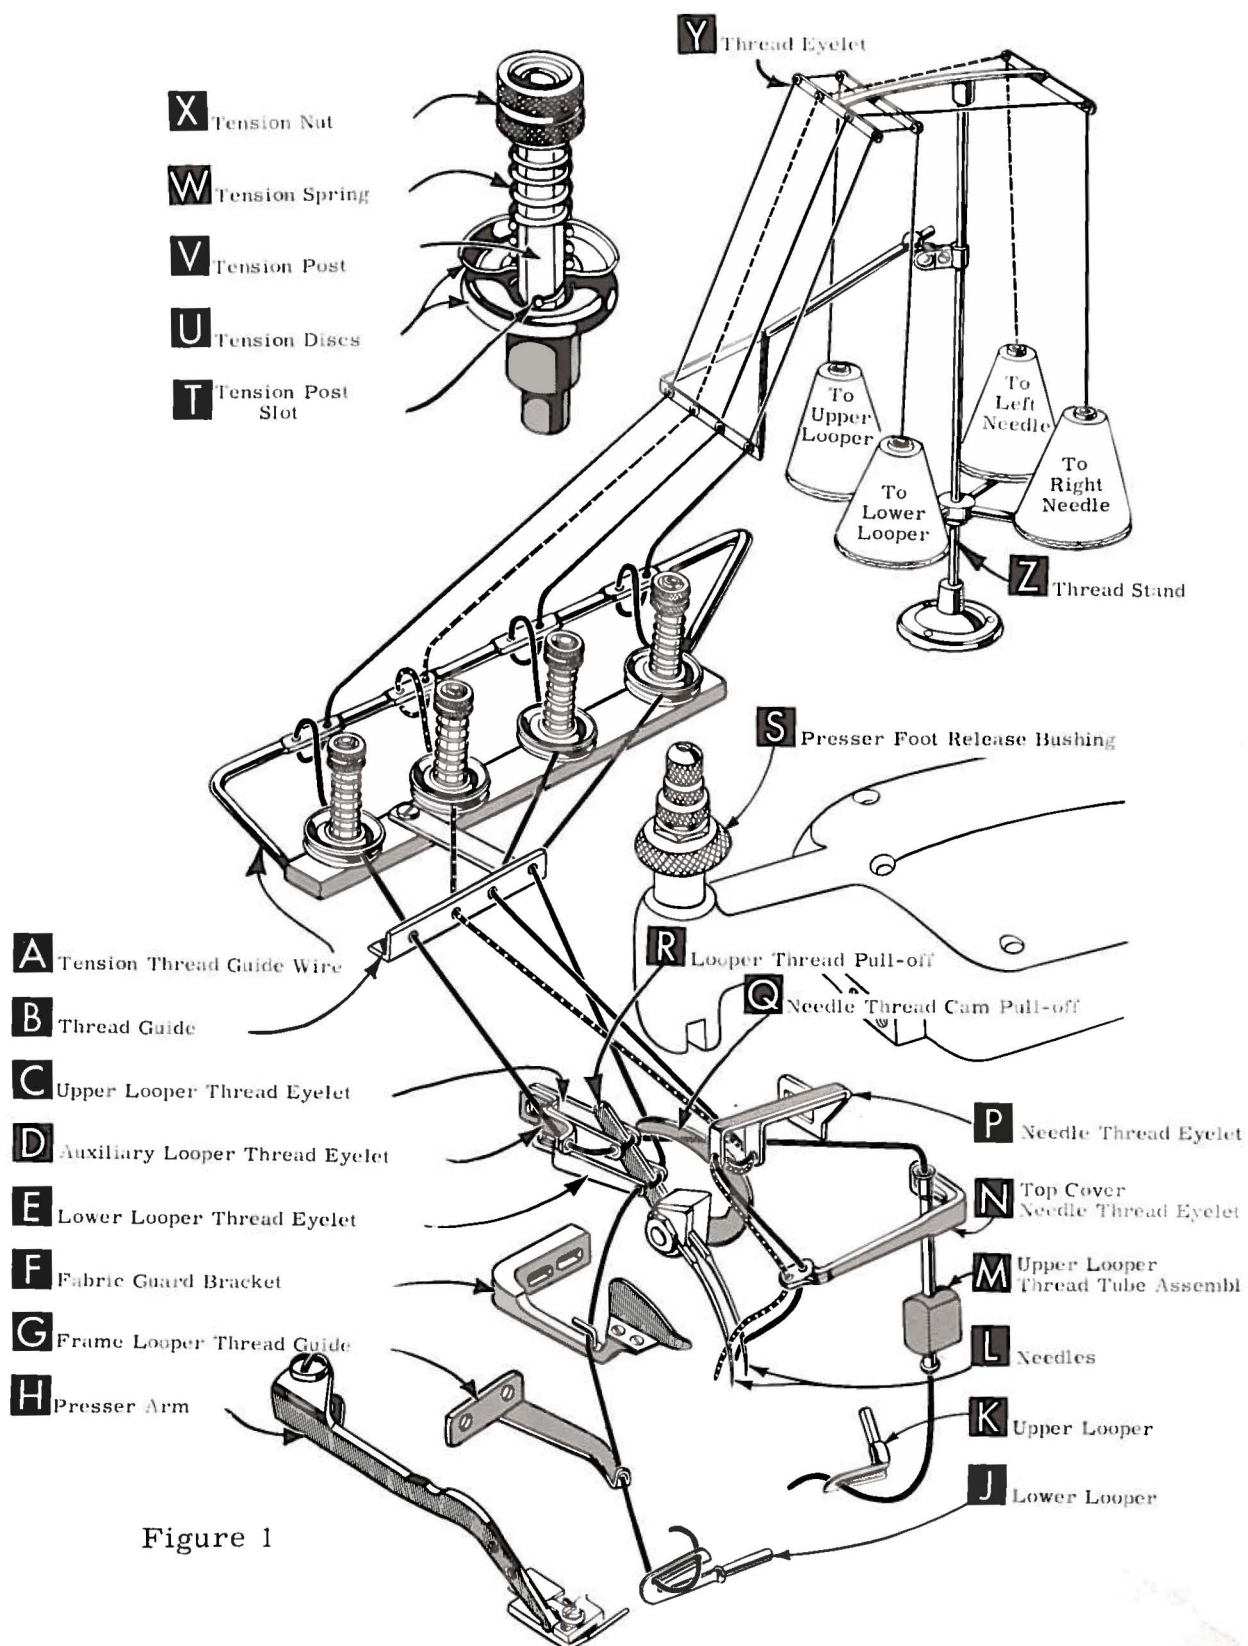

Figure 1
Release pressure on presser foot by turning presser foot release bushing (S, Fig. 1) and swing presser arm (H) out of position. Turn handwheel in operating direction until needles are at their lowest point of travel. Using hexagonal socket wrench No. 21388 AU, furnished with machine, loosen needle clamp nut about 1/4 turn. Again turn handwheel until needles are at their high position; withdraw needles.
After threads come from cones on thread stand (Z, Fig. 1), they are brought up through back eyelets, then down through front eyelets (Y) and through the adjustable thread guide. Next, they are threaded through each pair of holes in tension thread guide wire (A), down through right hand hole and up through left hand hole. Then thread continues between tension discs (U), through slot (T), and on through thread guide (B).
Only parts involved in threading are shown in threading diagram (Fig. 1). Parts are placed in their relative positions for clarity.
Double end of thread and lead it through both eyes of lower looper thread eyelet (E, Fig. 1) from right to left. Note: thread must pass in front of looper thread pull-off (R). Lead thread behind fabric guard (F) and through frame looper thread guide (G). Turn handwheel in operating direction until heel of lower looper (J) is all the way to the left; then thread through both eyes from left to right. Left eye of lower looper can be threaded easily if tweezers are in left hand.
Turn handwheel in operating direction until needles (L, Fig. 1) are at their highest position. Insert both needle threads from right to left, through both eyes of needle thread eyelet (P), under neck of top cover casting; then down through hole in top cover needle thread eyelet (N). Thread needles from front.
The amount of tension on needle and looper threads is regulated by four knurled tension nuts (X, Fig. 1). Tension on threads should be only enough to secure proper stitch formation.
Be sure machine is threaded according to threading diagram (Fig. 1, page 5). With thread tensions light, set looper thread eyelets (C & E) about horizontal and in the middle of their front to back locations. Operate machine slowly, without presser foot in place, to make sure that chain forms and moves off the tongue freely. Swing presser foot into position, insert material, and sew slowly.
While sewing on material, check needle thread control as follows: Usually all needle thread is drawn on needle down stroke. At top of needle stroke, thread should be just tight enough to feed chain off stitch tongue. Stitch tends to pull down slightly if excessive thread is pulled on the up stroke. With needle at bottom of stroke, position needle thread eyelet (P, Fig. 1) so that needle cam pull-off (Q) just contacts needle thread
With material under presser foot, set lower looper thread eyelet (E, Fig. 1) back far enough so thread is a little slack when looper thread pull-off (R) reaches its most rearward position. Looper thread pull-off (R) is set about 1/8 inch distance behind needle thread cam pull-off (Q). Frame looper thread guide (G) should be set with its eyelet approximately 1/8 inch right of lower looper (J) heel eyelet at the time lower looper is at extreme left end of its travel.
Before proceeding to adjust upper looper thread eyelet (C, Fig. 1) balance all four tensions to give a normal appearing stitch. Moderate change in these tensions will not markedly effect the purl.
To move the purl more under the edge, both looper thread eyelets (C & E, Fig. 1) should be raised keeping the same amount of pull-off. Usually it is better to have slightly more pull-off on upper thread than on lower thread.